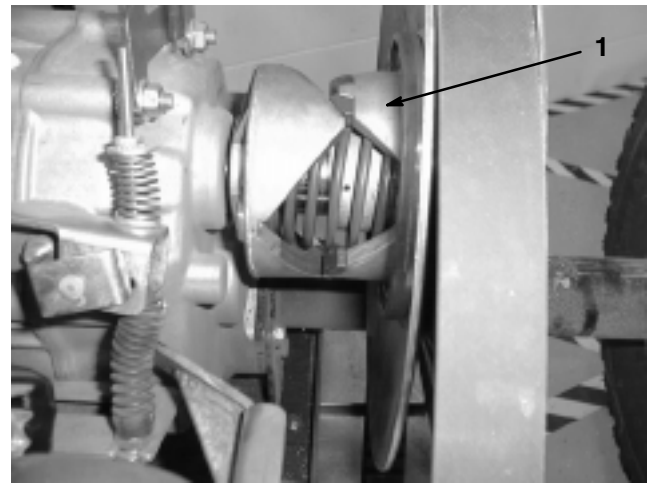

Figure 26
3. Ensure that the transaxle is locked in neutral by rotating the secondary clutch (Fig. 26). The tires should not rotate. If tire rotation does occur, repeat step 2 until the tires no longer rotate.